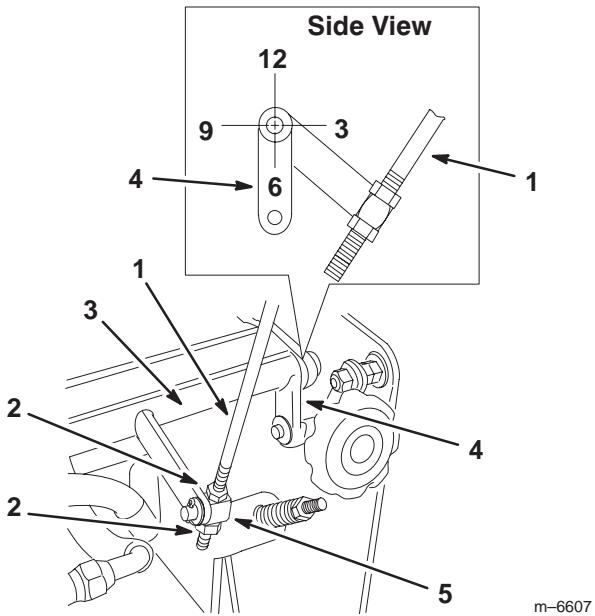

Figure 43
3. Check the orientation of the tabs on the ends of the speed control crank. These tabs should approximately be pointing straight down at the 6 o'clock position (Fig. 43).
4. If adjustment is needed, loosen the nuts on both sides of the swivel on the speed control rod (Fig. 43).
5. Adjust the swivel, until the tabs are at the 6 o'clock position (Fig. 43).
6. Tighten the nuts on both sides of the swivel (Fig. 43).